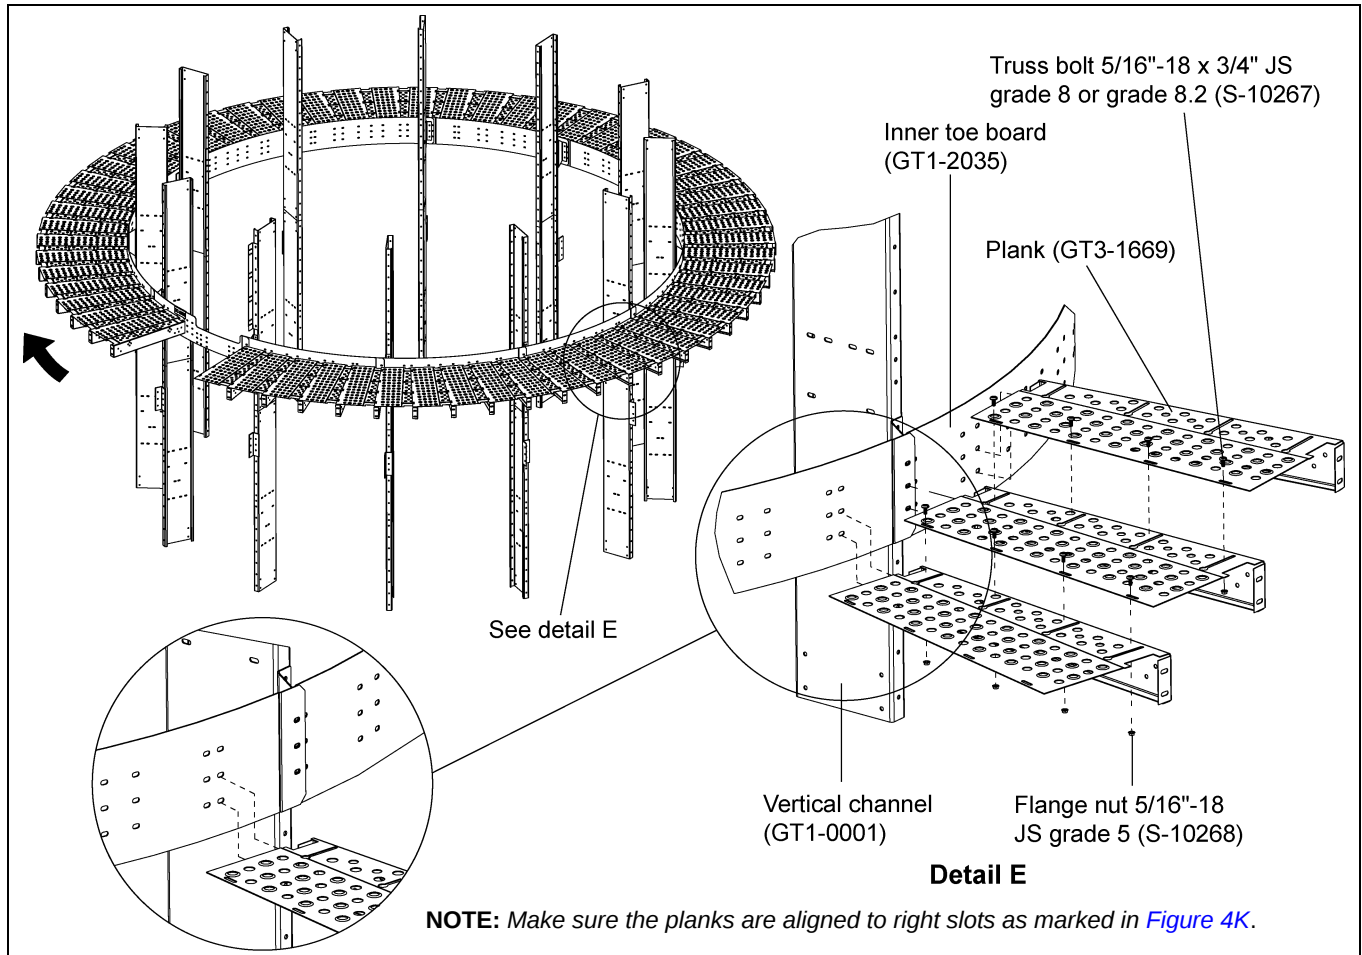

Figure 4J
1. Install planks (GT3-1669) around the dryer on inner toe board (GT1-2035) starting from ladder opening toe board (GT1-2089) as shown by arrow in the Figure 4J.
2. Planks (GT3-1669) are installed to bottom two (2) holes of the inner toe board (GT1-2035) using 3/8"-16 x 1" JS grade 8 or grade 8.2 bolts (S-7485) and 3/8"-16 ZN grade 5 nuts (S-968).
(See Figure 4J.)